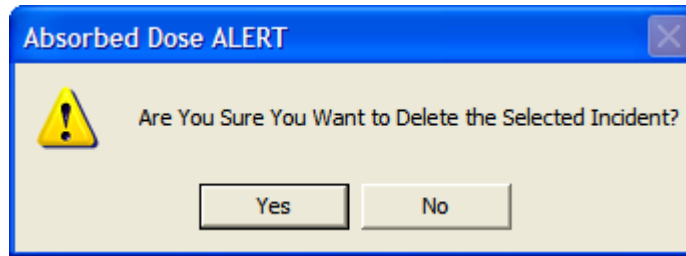

Figure 7-10
- To delete the selected incident, verify that the desired incident is highlighted in the Incident list box and click the **Delete Incident** button. If the selected incident is not the currently active incident, Figure 7-10 will appear.
To delete the currently active incident, select (highlight) a different incident and click the button. The Incident Setup Screen will re-appear displaying the parameters for the selected incident. Click the button on the Incident Setup Screen. Figure 7-8 Incident Selection Screen will re-appear. Highlight the desired incident and press the button. Figure 7-10 will appear.